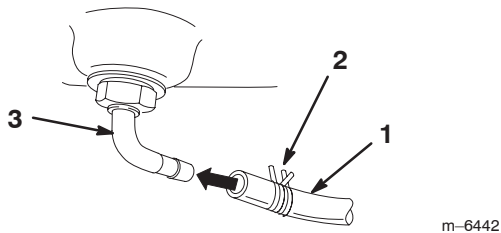

Figure 14
4. Slide the hose clamp onto the fuel line (Fig. 14).
5. Push the fuel line onto the fuel tank connection and secure it with a hose clamp (Fig. 14).